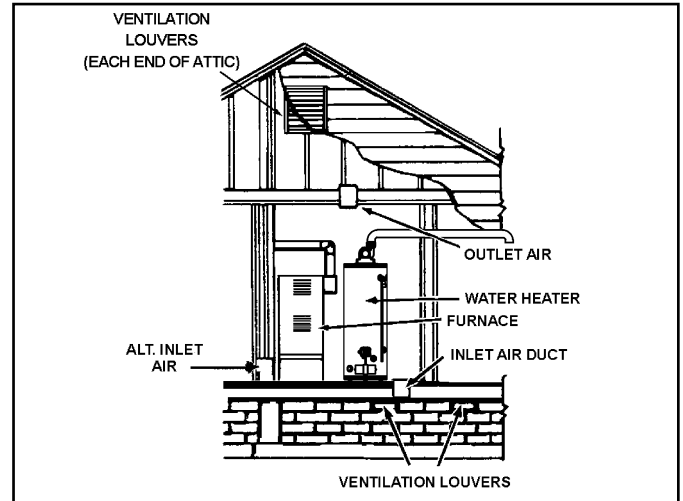
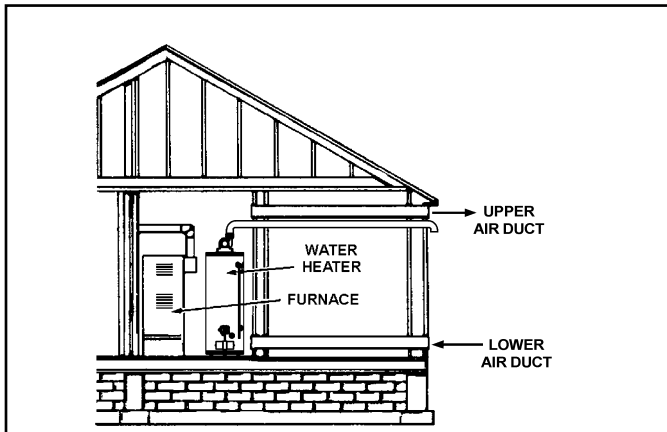

Figure 16.
Figure 18.
Use this method if indoor combustion air is insufficient. (See Figure 16 through Figure 18).
1. When directly communicating with the outdoors, each opening shall have a minimum free area of 1 square inch per 4,000 Btu/hr of total input rating of all equipment in the enclosure (see Figure 16).
3. When communicating with the outdoors through horizontal ducts, each opening shall have a minimum free area of 1 square inch per 2,000 Btu/hr of total input rating of all equipment in the enclosure (see Figure 18).
- When ducts are used, they shall be of the same cross-sectional area as the free area of the openings to which they connect. The minimum short side dimension of rectangular air ducts shall not be less than 3" (see Figure 18).